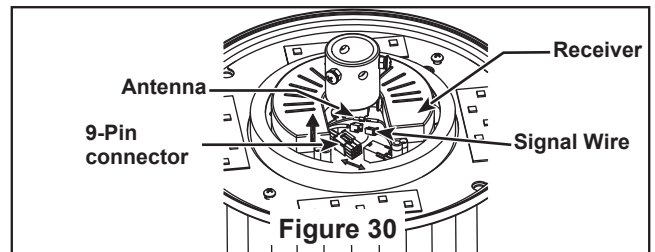

Figure 30
- ☐ 2. Unplug antenna, signal wire and 9-PIN connector then replace new receiver. (Figure 30)